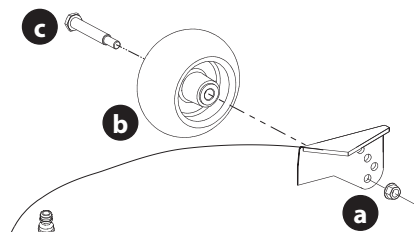

Figure 10
6. Remove the lock nut (a) gauge wheel (b) and shoulder screw (c) from the deck (Figure 10).